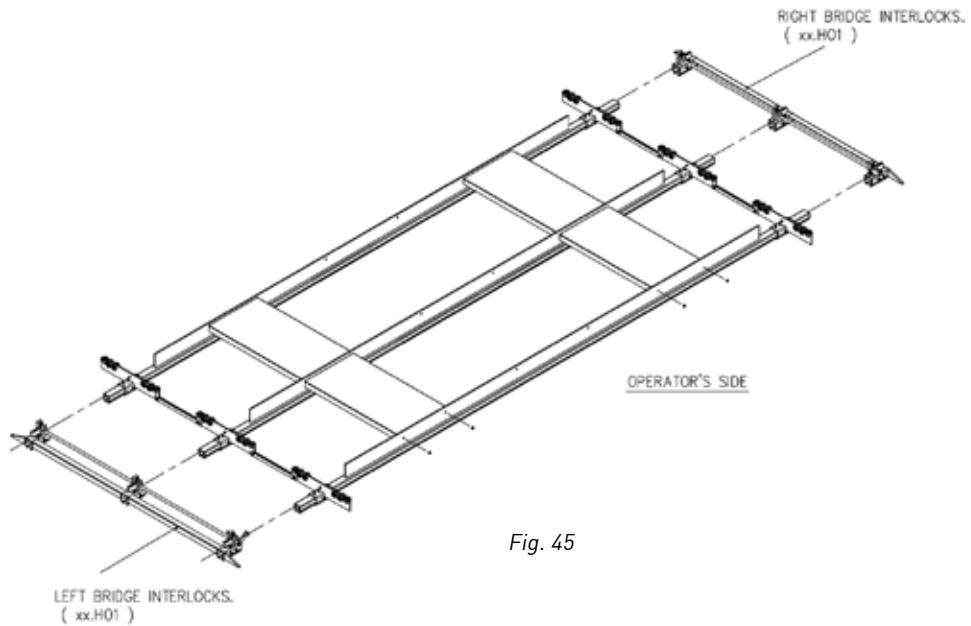

Fig. 45
Step 6 : Slide the bridge interlocks xx.H01 onto the reinforced tracks and secure loosely. Fig. 45 illustrates the correct interlock orientation (left/right). (fig. 45)